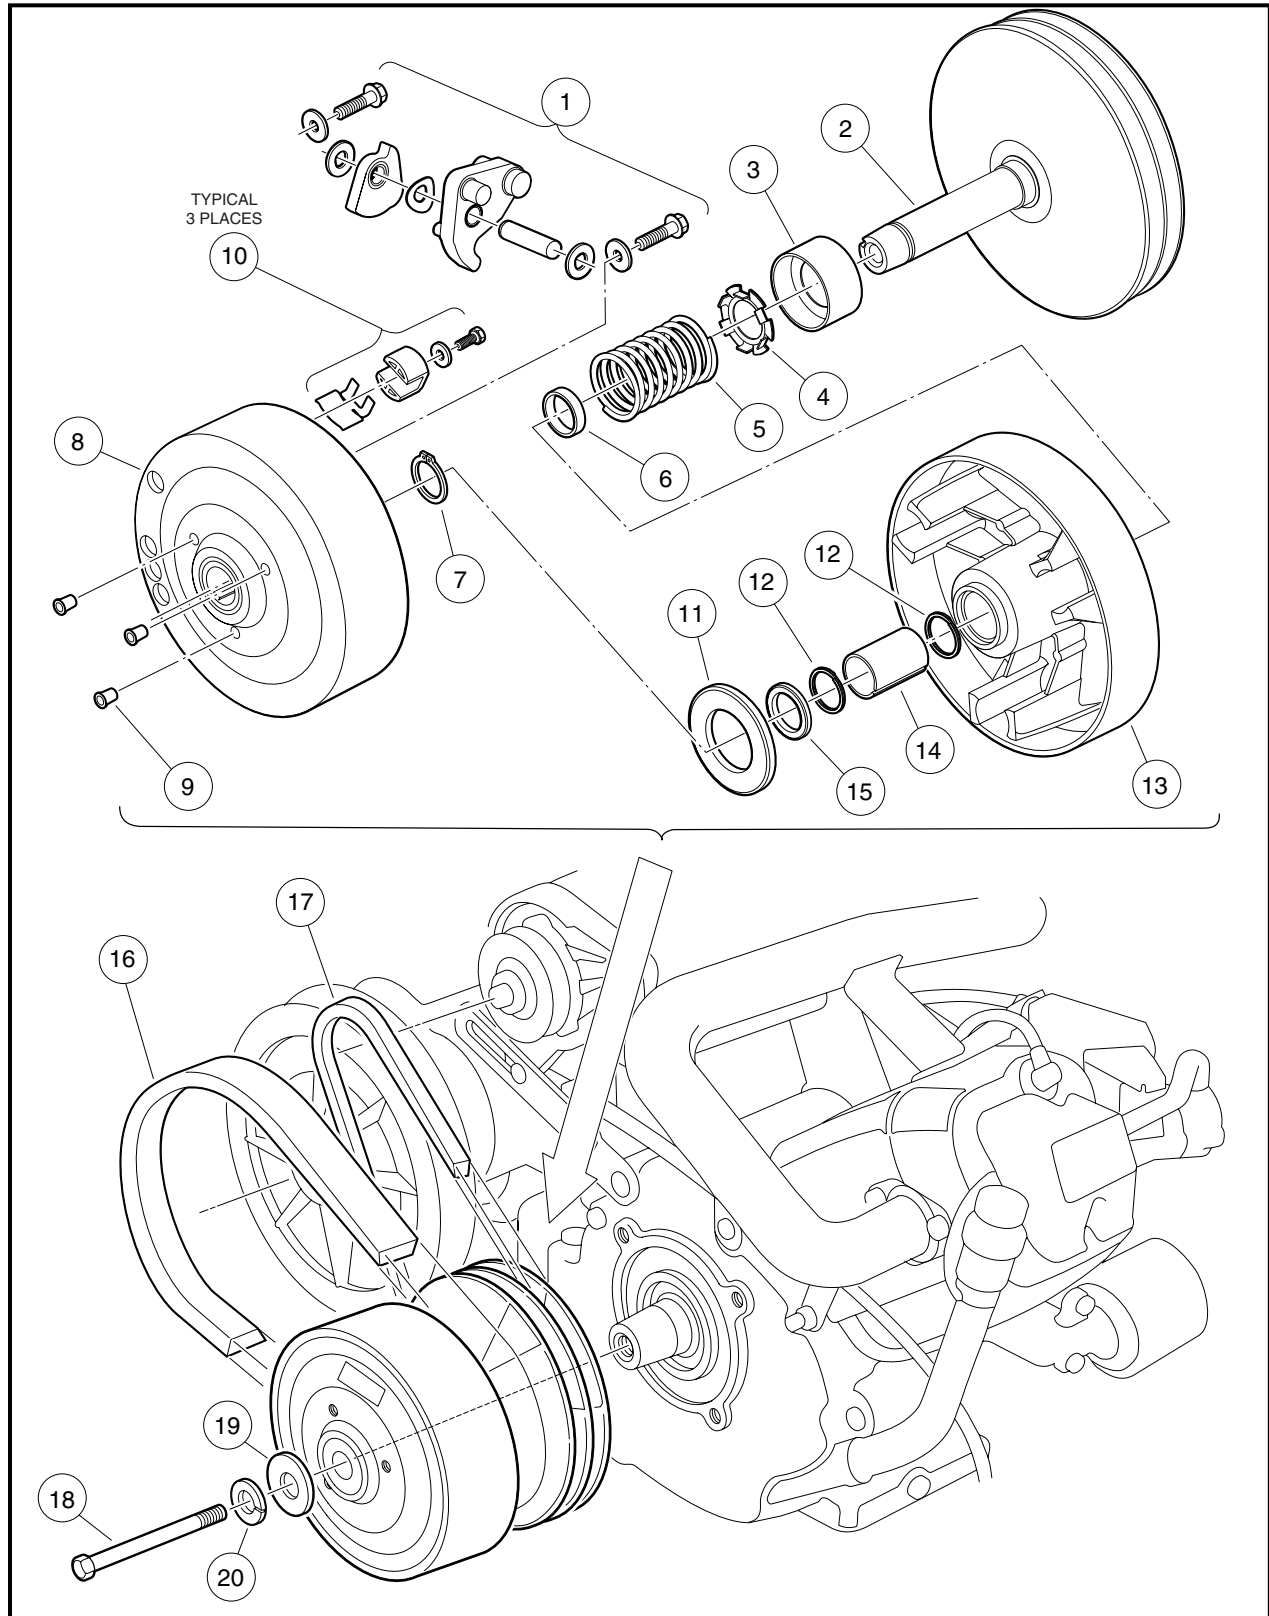
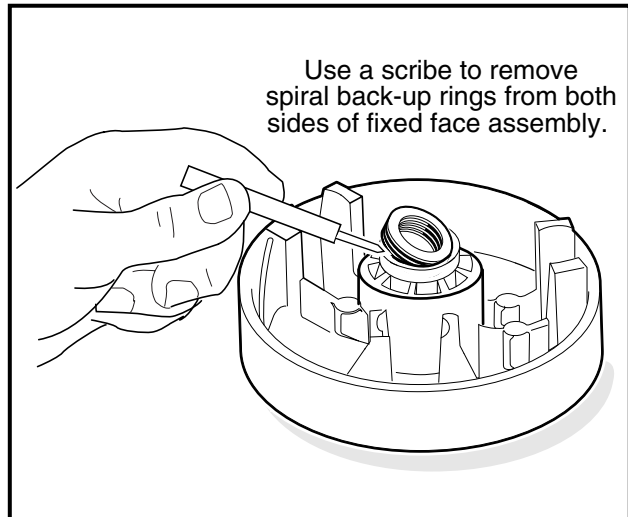

Figure 17-7 Drive Clutch Assembly
Figure 17-11 Spiral Back-up Rings
3. If cleaning both clutches does not solve the problem, disassemble and thoroughly clean all parts in the drive clutch. Be sure to clean the plastic drive buttons (10) (**Figure 17-7, Page 17-8**).
6. Remove the drive clutch retaining bolt (18), lock washer (20) and mounting washer (19) (**Figure 17-7, Page 17-8**).
- Use only a dry cloth to lightly wipe the shaft (2) of the fixed face assembly (Figure 17-7, Page 17-8). Do not use a brush or steel wool. These will damage the surface of the shaft.
2. Remove the clutch drive hub (8) (**Figure 17-7, Page 17-8**).
- 2.1. Remove the three plastic plugs (9) from the clutch puller attachment holes in the drive hub (8) (**Figure 17-7, Page 17-8**).
- 2.4. Unscrew the hub puller center bolt from the clutch, forcing the stop nut up against the puller plate, lifting the drive hub (8) from the fixed face shaft (2) (**Figure 17-7, Page 17-8**).
3. Remove the thrust washer (11) from the moveable face (13).
6. Remove the retaining ring (7) from the shaft of the fixed face assembly (2) and slide the moveable face (13) off the shaft (**Figure 17-7, Page 17-8**). See following NOTE.
**NOTE:** When the moveable face is removed from the hub of the fixed face, the spiral back-up rings (12) must be replaced with new ones at time of assembly (**Figure 17-7, Page 17-8**).
7. Remove the spacer (6), spring (5), and retainer (4). The spring retainer (4) can be removed from the spring if necessary (**Figure 17-7, Page 17-8**).
9. Use a scribe or small pick to remove the spiral backup rings (12) from each end of the bore in the fixed face assembly (**Figure 17-7, Page 17-8**). See also **Figure 17-11, Page 17-10**. Discard the rings.
1. Inspect the idler bearing (3) for smooth rotation or seal damage (**Figure 17-7, Page 17-8**).
2. Inspect the bore of the moveable face assembly (13) for scarring or wear. The moveable face assembly must be replaced if the bore is worn to a diameter of 0.883-inch (22.4-mm) or larger (**Figure 17-7, Page 17-8**).
3. Inspect the steel shaft (2) on the fixed face assembly. There should be no noticeable wear anywhere on the shaft. Replace the shaft if it is worn, scratched, or damaged.
1. Press idler bearing (3) onto the shaft of the fixed face assembly (2). Press on the inner race of the bearing only. Make sure that the cup side of bearing is facing away from the fixed face (**Figure 17-7, Page 17-8**).
2. Use a needle nose pliers to install the spring retainer (4) onto the spring (5).
3. Install the spring (5) and retainer (4) into the cup of the idler bearing (3).
4. Install the spacer (6) onto the shaft of the fixed face.
5. Install a new spiral backup ring (12) in each end of the bore of the moveable face assembly (13).
6. Install the moveable face assembly (13) onto the shaft of the fixed face assembly (2). **See following CAUTION.**
- 6.2. Install the retaining ring (7) (Figure 17-7, Page 17-8).
12. Install the 1/4-20 screws and washers (1) and tighten them to 10 ft-lb (13 N·m) (**Figure 17-7, Page 17-8**).
16. Install the thrust washer (11) onto the moveable face assembly (**Figure 17-7, Page 17-8**).
17. Install the hub assembly (8) on the moveable face assembly and align the match marks made before disassembling the clutch. Press the hub assembly on by hand.
18. Replace the three plastic plugs (9) into the hole protectors.
1. Place the drive clutch assembly on the crankshaft taper. Position the mounting washer (19) on the bolt (18) and lock washer (20) and start the bolt into the crankshaft (**Figure 17-7, Page 17-8**). **See following NOTE.**
2. Tighten the drive clutch retaining bolt (17) to 25 ft-lb (33.9 N·m).